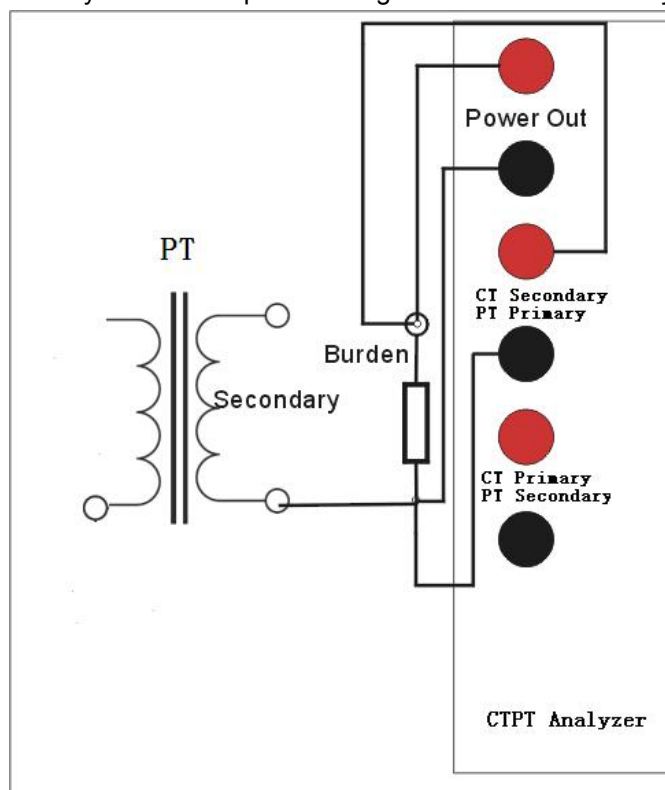

Figure 3.6 PT secondary burden test connection
Please connect analyzer and sample PT as figure 3.6 in PT secondary burden test
- 2) Disconnect sample PT secondary coil with secondary loop as figure 3.6.